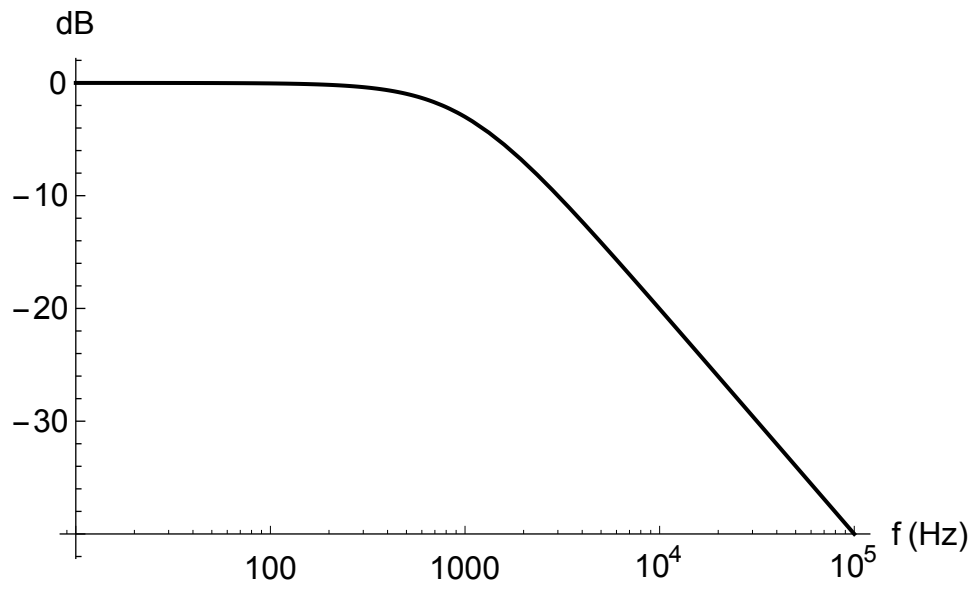
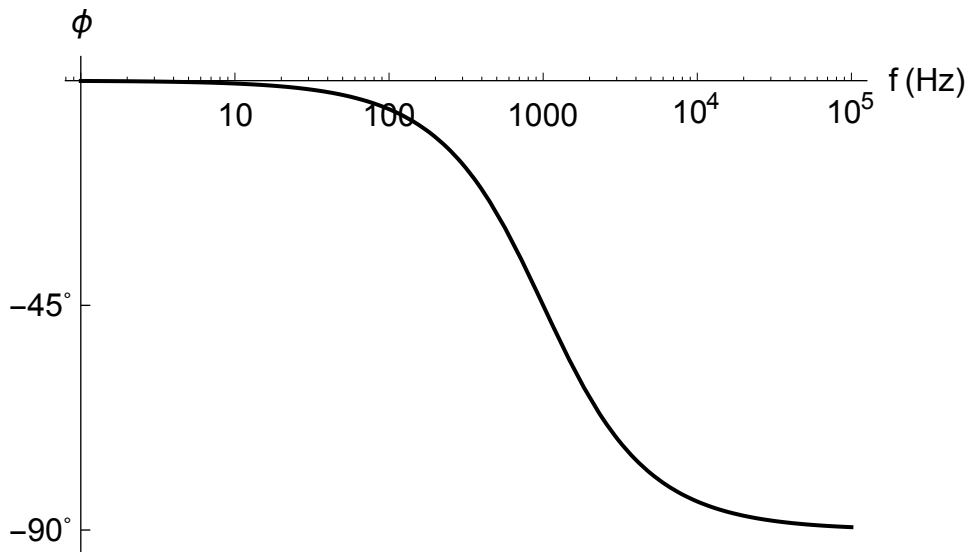

Figure 4: Bode amplitude plot for a low-pass RC filter.
Figure 5: Bode phase plot for a low-pass RC filter.
- c. For each filter, plot the data and theoretical curves together. For the amplitude plots, use the decibel (dB) scale $20 \log_{10} A(\nu)$ for the vertical axis and $\log \nu$ for the horizontal axis as in Fig. 4. For the phase plots, use a linear vertical axis for the phase and $\log \nu$ for the horizontal axis as in Fig. 5. Determine the *breakpoint* or *characteristic* frequency from the data plots by identifying the -3dB point on the amplitude plot (also known as a Bode plot) and the 45° point of the phase plot.